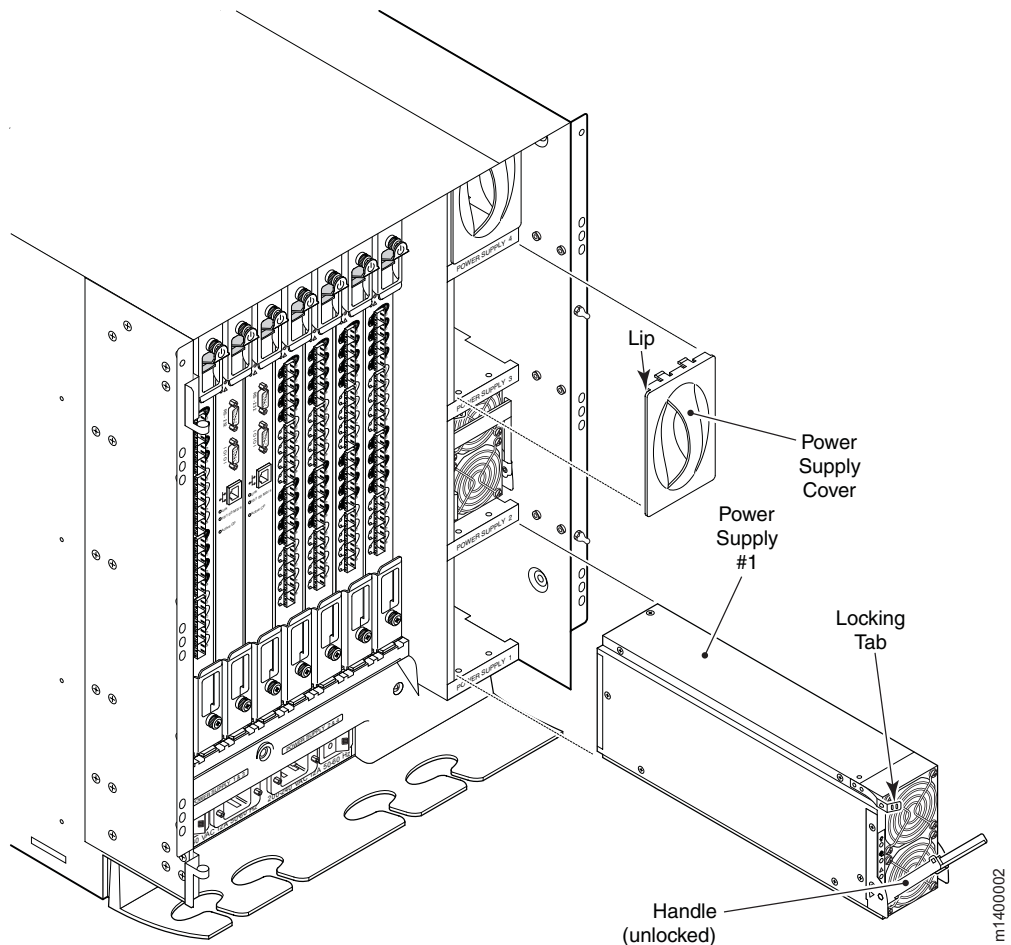

Figure 43. Power supply removal and replacement
2. Remove the power supply from the chassis. See Figure 43 on page 72.